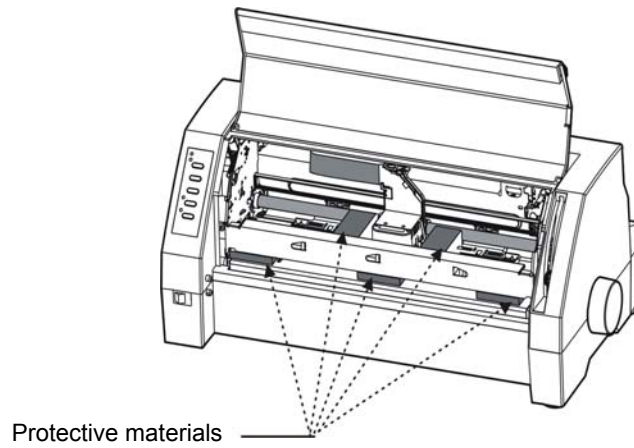

Figure 2-2 Unpacking the protective materials
1. Open the packing box, lift up the printer, open the top cover of the printer, remove the packing materials as shown in Figure 2-2.